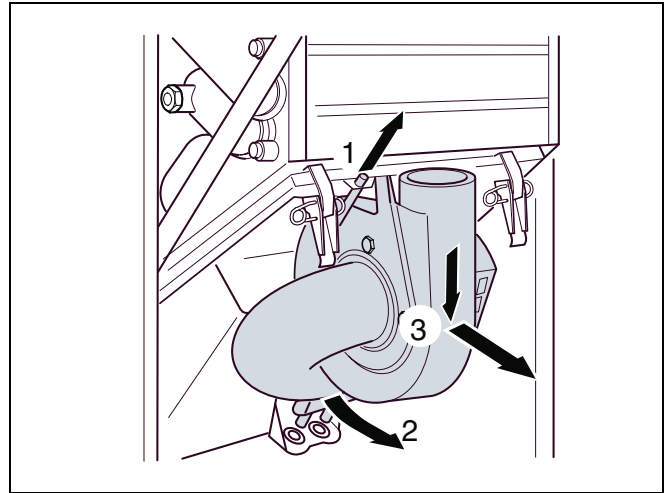

fig. 44 Removing the fan
- Push up the fan (fig. 44, item 1).
- Pivot the lower end of the fan forward (fig. 44, item 2) and take it out downwards and forwards (fig. 44, item 3).